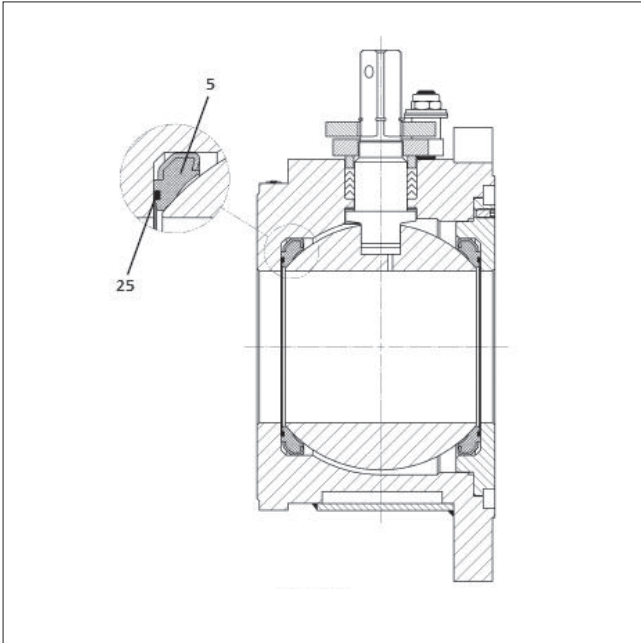
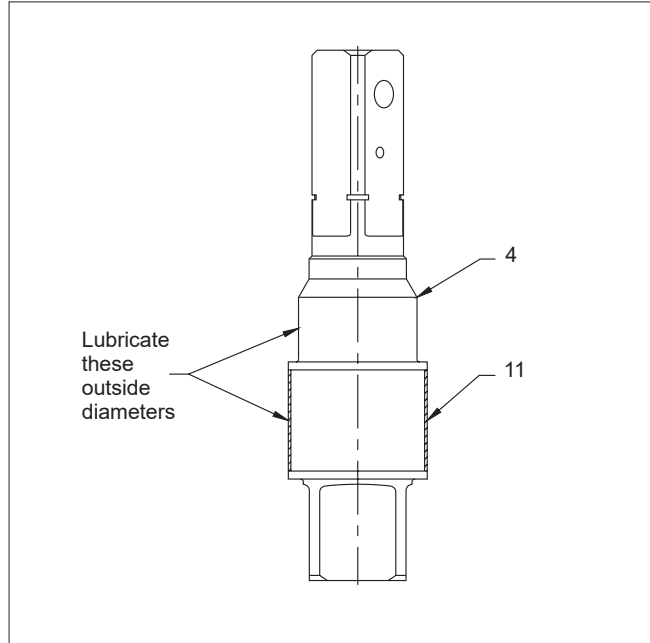

Figure 1.
Figure 2.
1. Place the o-ring (25) in the groove on the back of the seat (5) (**Figure 1**). A small amount of lubricant applied to the o-ring will help hold the o-ring in the groove during assembly. Ensure that all sealing surfaces are clean before continuing.
2. Slide seat (5) and o-ring (25) into the body (1) to below the stem opening and tilt it into place so that the proper face will come into contact with ball (3) (see **Figure 1**).
4. From inside the valve body cavity, insert the secondary stem seal (13) and lower stem seal (7).
5. Assemble the stem (4) and stem bearing (11) as shown in (**Figure 2**). Lubricate as noted with compatible lubricant. Install the stem/stem bearing assembly into the body from inside the body (1), being careful not to scratch the stem seals and press it up into the stem bore until it is firmly seated against the lower stem seals (13 & 7). Exercise caution that the stem bearing (11) remains in place on the stem as it is being installed into the body stem bore.
6. Holding the stem in place from the bottom, insert the upper stem seal (7) over the stem and into the body stem bore.
7. Place the compression ring (18) on the stem and fit the bonnet plate (9) over the stem and the two bonnet studs. Place one stop sleeve (14) and one bonnet nut (10) onto each bonnet stud.
8. Place one stop sleeve (14) and one bonnet nut (10) onto each bonnet stud.
9. Tighten each bonnet nut (10) evenly and alternately until contact is made with the bonnet plate (9). Then with a torque wrench, evenly apply about 240 IN•LBS (27 N•m) of torque to each nut.
10. Place the indicator stop (12) over the stem (4). A tamperproof pin in the stem will allow the indicator stop onto the stem only one way. At this point, the stem with the indicator stop mounted and located between stop sleeves (14) is positioned so that a counterclockwise rotation of the stem will open the valve.
11. Place the retaining ring (32) over the stem and into the groove on the stem.
12. Insert the ball (3) rotating it onto the stem (4) in the closed position. If necessary, turn the stem blade to align with the ball slot.
13. Assemble o-ring (25) and seat (5). Place the seat assembly into the insert (2) in a manner that the sealing face will contact the ball (3) (**Figure 1**). Center and firmly clamp seat assembly into the body using the fixture in (**Figure 3**). Tack weld the seat into position per the instructions indicated in (**Figure 3**).
14. Adjust the set screws (26) so that they do not protrude through the insert or above the insert face.
15. Fit the insert (2) into the valve body, aligning the mounting holes in the insert with the threaded holes in the body.
16. Compress the insert into the body with the socket head cap screws (20) by tightening them evenly and alternately until the insert is bottomed and all the cap screws are tight.
17. Replace the handle (15), if present, and fasten to the stem using the handle pin (28).